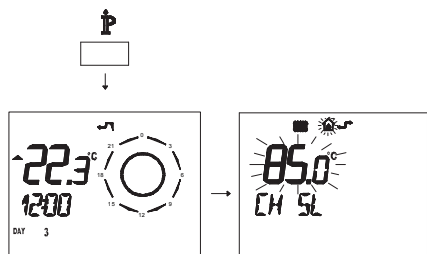

Fig. 7.28
- Press button \bar{P} for more than 3 seconds to enter in *INFO* mode (Fig. 7.28).